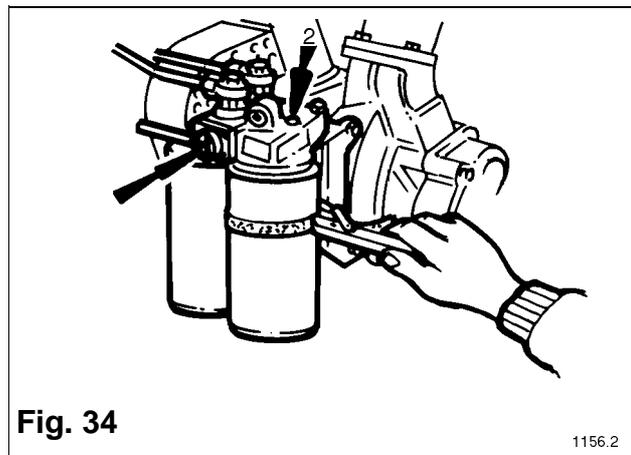

Fig. 34
All that is necessary is to unscrew the canisters with a strap wrench as shown in **Fig. 34**, leaving the change-over lever in the vertical position as there is no pressure in the fuel system with the engine stationary. The replacement canisters are screwed on by hand, after applying a smear of clean engine oil to the rubber seals, and tightening by firm hand pressure only. Bleed the air from the new filters by slackening the vent screw (2) and operating the priming pump. Check for leaks when the engine is restarted.